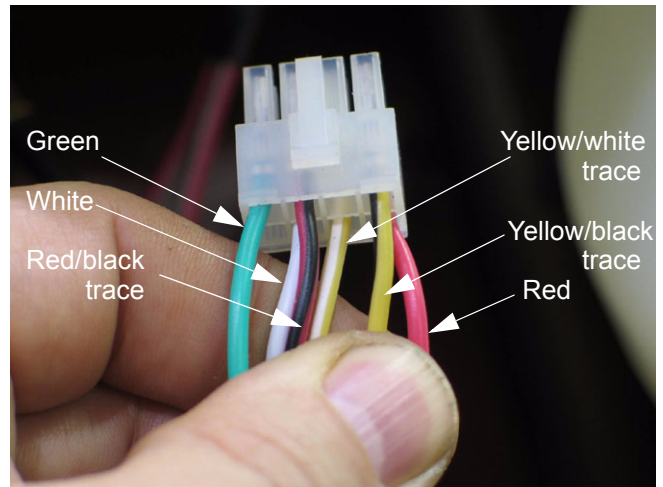

Figure 17.11
17.11. Disconnect the molded 8-pin plug from the RMC module. See Figure 17.11.